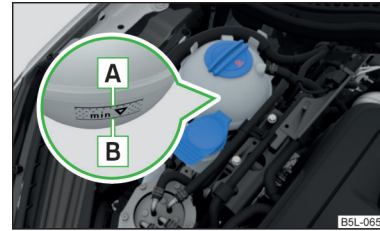

Fig. 170
The description of the coolant is shown in the coolant expansion reservoir » Fig. 170 on page 170.
- Do not fill the coolant above the mark **A** » Fig. 170 on page 170.
**Coolant expansion reservoir** » Fig. 170
➤ Check the coolant level in the coolant expansion tank » Fig. 170.
If the engine is warm, the test result may be inaccurate. The level can also be above the mark **A** » Fig. 170.